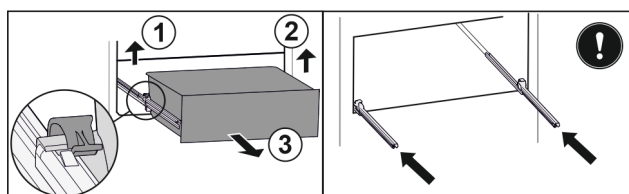

Fig. 105
- Lift left clamp and simultaneously pull drawer forwards on the left. Fig. 105 (1)
- Lift right clamp and simultaneously pull drawer forwards on the right. Fig. 105 (2)
- Remove drawer to the front. Fig. 105 (3)